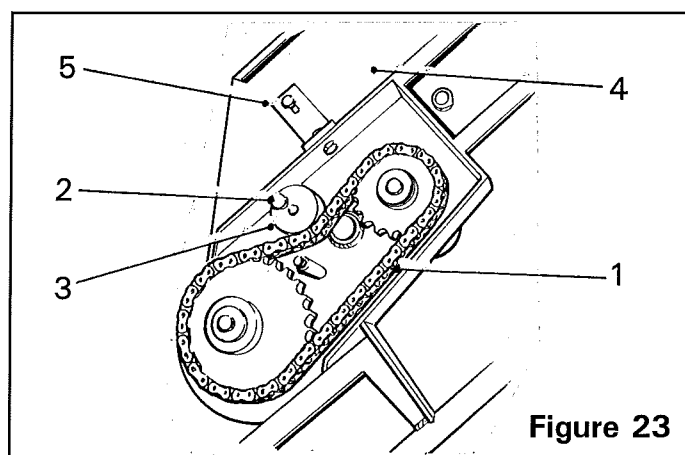

Figure 23
The discharge elevator drive chain (*item 1, figure 23*) is tensioned by loosening the retaining bolt (*item 2, figure 23*) and rotating the tensioner block (*item 3, figure 23*). To ensure the web panels (*item 4, figure 23*) do not foul the elevator web, they are mounted on slotted brackets (*item 5, figure 23*) which allow them to be positioned vertically and horizontally relative to the web. Care should be taken when adjusting the panels to ensure they do not rub on top of the web bars, as this will cause rapid wear and damage to both the web and panels.